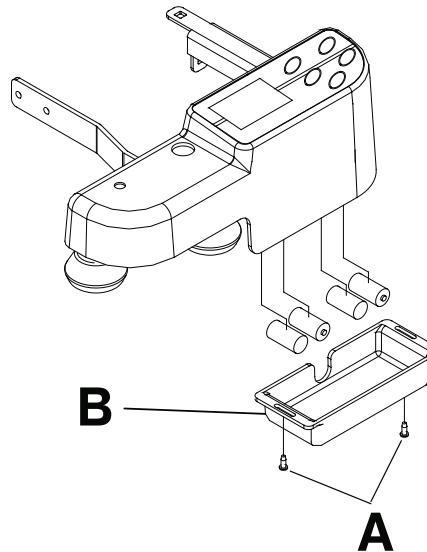

Figure 9 – Battery replacement
1. Using a #2 Phillips screwdriver, remove the two screws (A) that secure the battery cover (B) to the enclosure (Figure 9). Save the cover. Remove and discard the batteries.